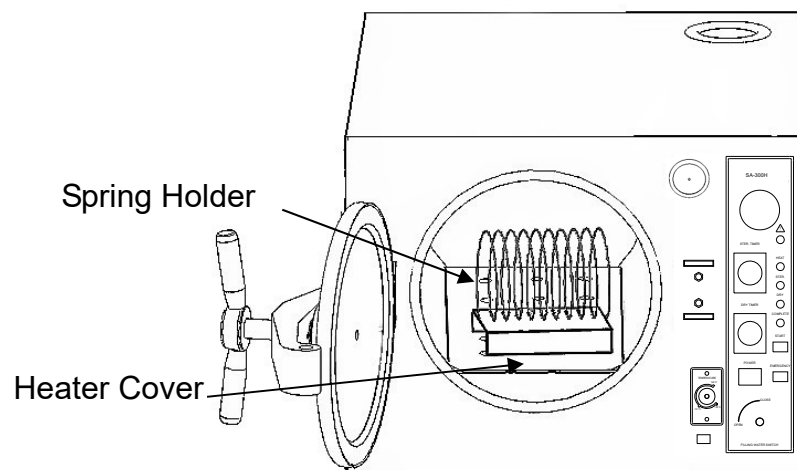

Figure 9
- F. Install the spring holder as Figure 9. (optional accessory)